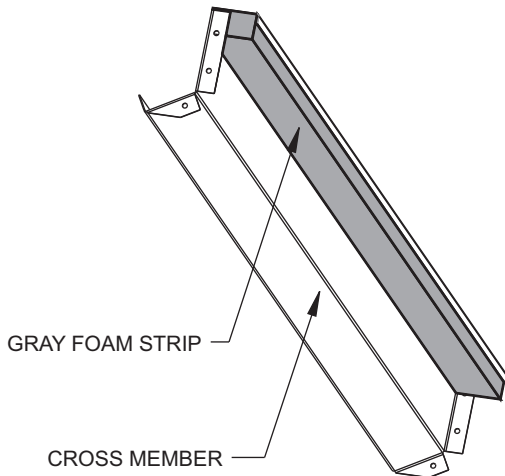

Fig. 27 — Adding Foam Strip to Cross Member
2. Add gray foam strip (provided) to cross members on bottom tray. See Fig. 27.